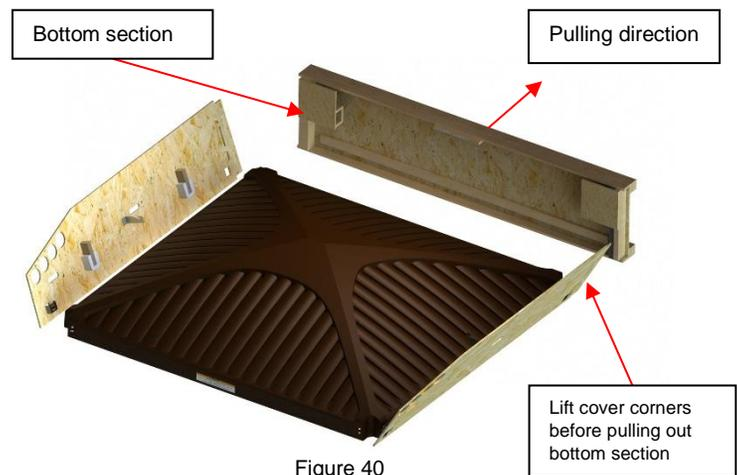

Figure 40
22) Pull the bottom section out, making sure that it does not interfere with the cover. If it does, gently lift the cover near the bottom section and continue pulling it out. (Figure 40)